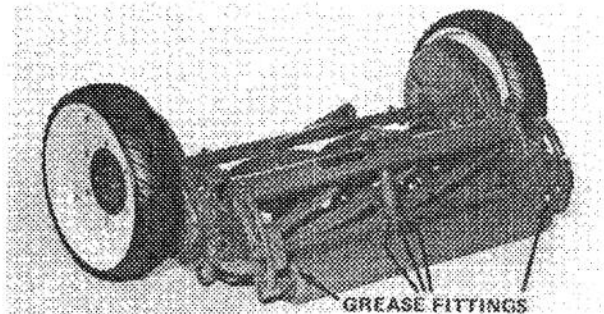

Figure 16
2. The mowers should be greased every 8 hours of operation with Texaco Marfak Heavy Duty 2 wheel bearing grease or equivalent, to obtain maximum life. This grease can be used on all greasing points (Fig. 16) on the SPARTANS. When pressure is felt while greasing the roller, bearing